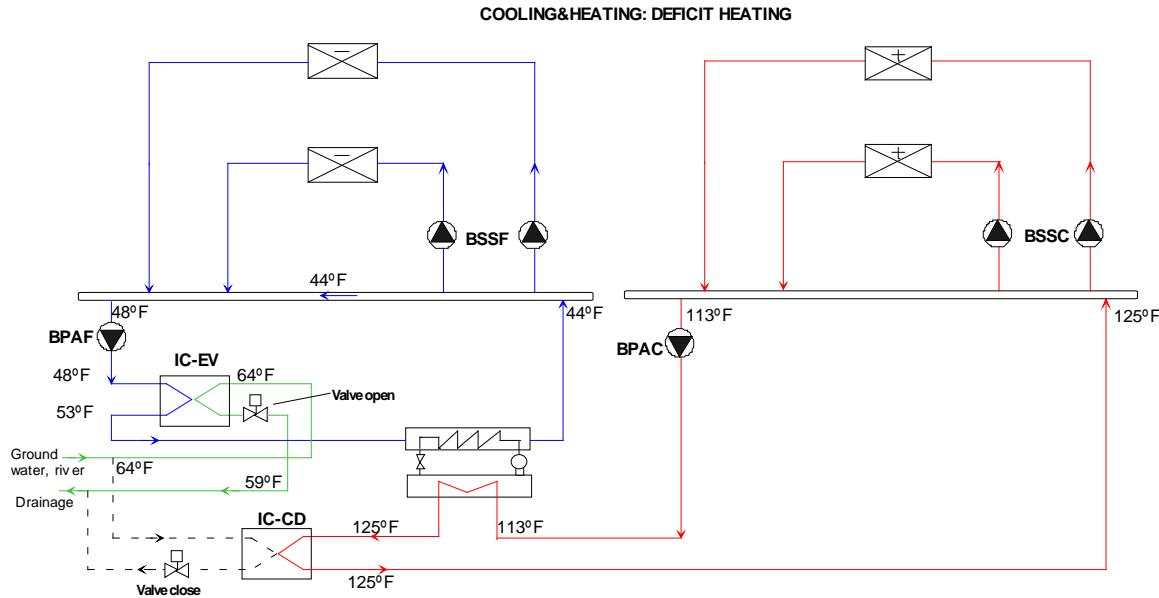

Figure 34. Loop-to-Loop Heat-Pump Heating dominated
4. Heating dominated (Figure 34) – Simultaneous heating and cooling loads exist, with heating being the dominant load. Additional heat from the well loop is made up to the evaporator loop via heat-exchanger IC-EV. The heat-exchanger is controlled to maintain the supply temperature setpoint of the chilled-water loop. Since the temperature leaving the evaporator may be substantially lower than in the heating-only mode, the capacity and energy efficiency of the chiller are reduced.